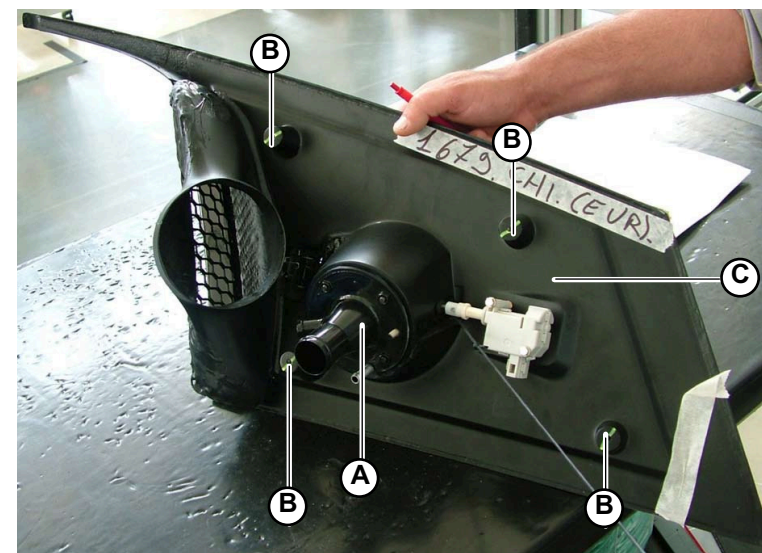

Fig.7
1. Disconnect the pipe connecting the fuel tank to the filler (A-Fig.7) (for right fender cover only).
2. Disassemble the cover by unscrewing the 4 nuts (B-Fig.7) securing the cover to the body.
3. Remove the cover (C-Fig.7).